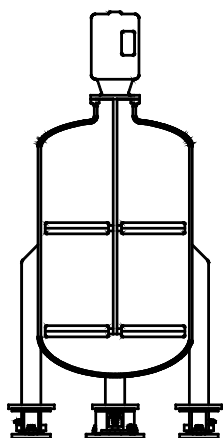

Figure 6-9: Tank Scale with Mixer, Static Weighing
- **Tank Scale with Mixer, Static Weighing:** This type of scale is subject to dynamic forces at times but not during the weighing operation. Because the mixer does not affect the weighing results, stabilizers are not required (see Figure 6-9).